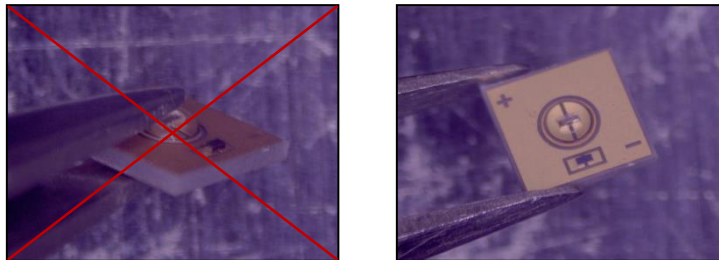

Fig 10. incorrect handling (left) and correct handling (right) of UVC LED Package
- Recommend holding the sidewalls of the LEDs (See Fig 10.)